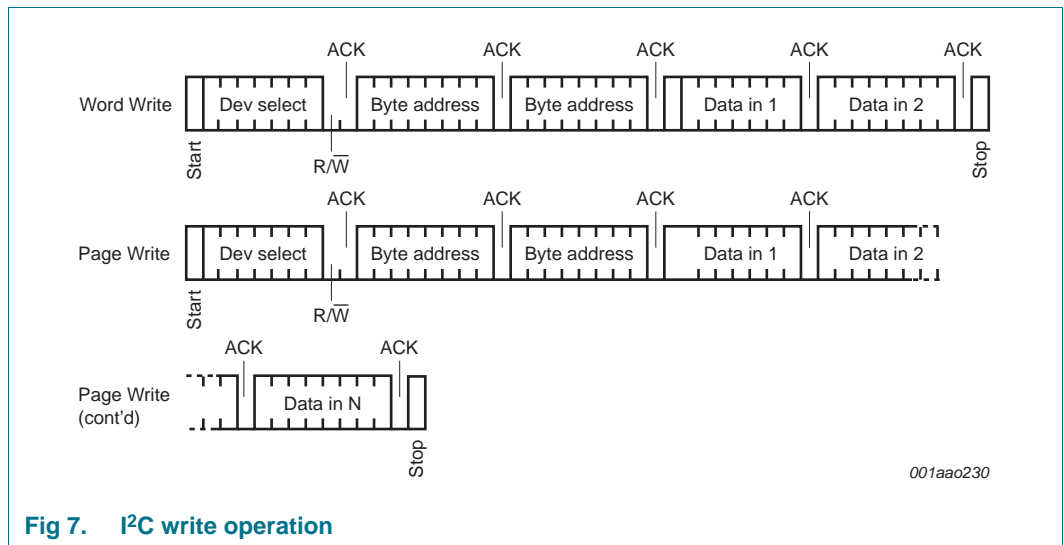

Fig 7. I²C write operation
The UCODE I²C supports the I²C protocol. This is summarized in Figure 7. Any device that sends data on to the bus is defined to be a transmitter, and any device that reads the data to be a receiver. The device that controls the data transfer is known as the bus master, and the other as the slave device. A data transfer can only be initiated by the bus master, which will also provide the serial clock for synchronization. The device is always a slave in all communications.
Following a Start condition the bus master sends a device select code with the Read/Write bit (RW) reset to 0. The UCODE I²C acknowledges this, as shown in Figure 7 and waits for two address bytes. The UCODE I²C responds to each address byte with an acknowledge bit, and then waits for the data Byte.
After the device select code and the address word, the bus master sends one word data. If the addressed location is Write-protected, the UCODE I²C replies with NACK, and the location is not modified. If, instead, the addressed location is not Write-protected, the UCODE I²C replies with ACK. The bus master terminates the transfer by generating a Stop condition, as shown in Figure 7.